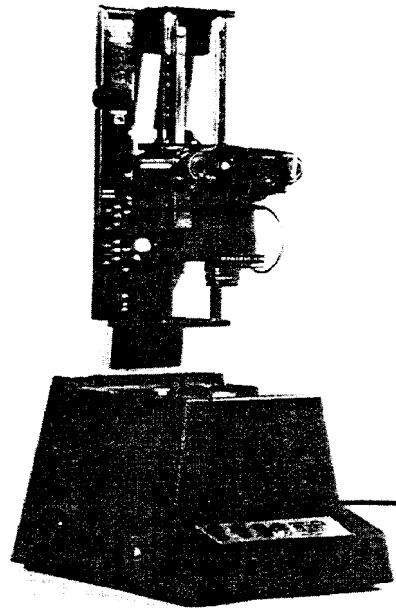

Figure 1-1. REPRONAR slide copier.
a. 35mm format is most commonly used to produce 35mm color or black and white (B/W) slides by copying charts, maps or any other flat surface material. This can be done with most types of 35mm cameras. When it comes to copying (duplicating) color slides and transparencies, the equipment best suited for this is the 35mm REPRONAR (fig 1-1). This equipment will provide copy with a minimum loss of detail and colors.